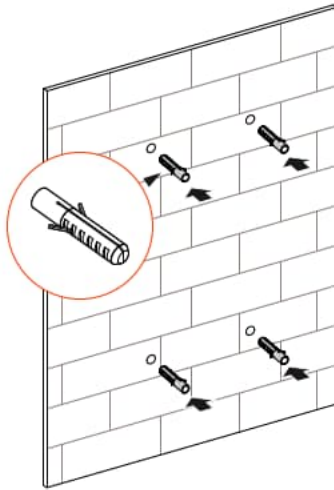

Figure3-8 Install expansion plugs
Step 3 Install the equipped 4 expansion plugs into the holes, as shown in Figure3-8.